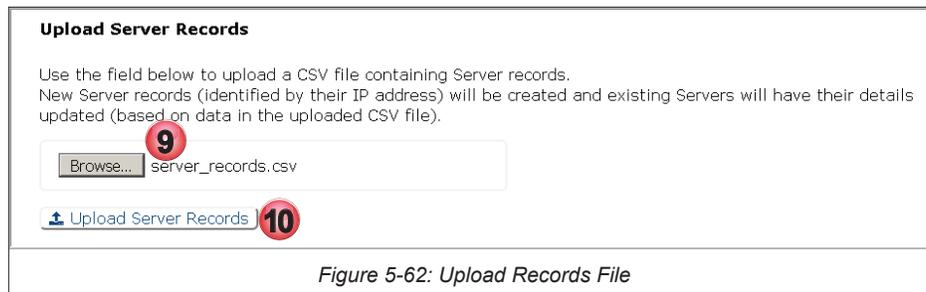

Figure 5-62: Upload Records File
9. The selected file will be displayed beside the browse button, Figure 5-62.